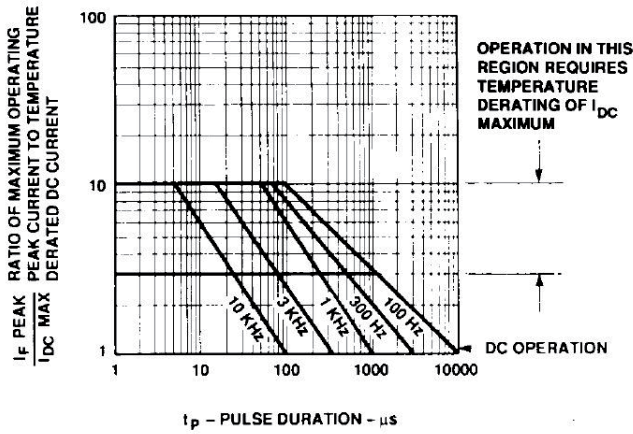

Figure 6. Maximum Tolerable Peak Current vs. Pulse Duration – HER Series.
- See Figure 6 to establish pulsed conditions.